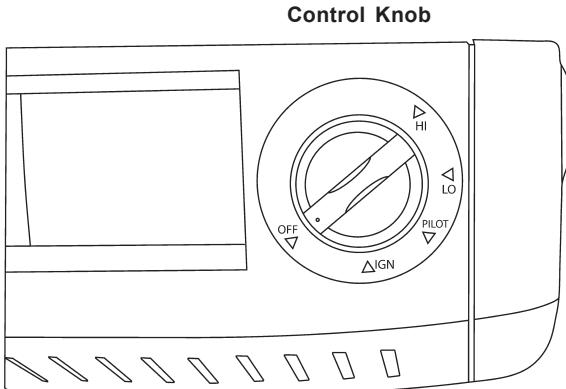

Figure 16
- Push in gas control knob and slightly turn clockwise to the OFF position (see figure 16).